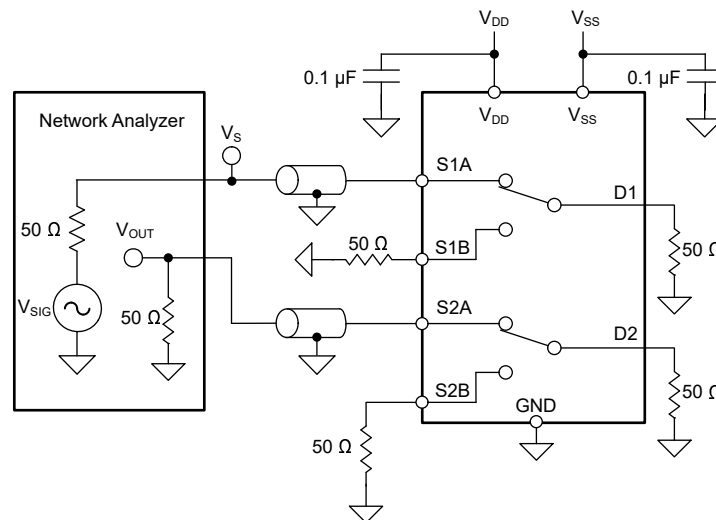

Figure 7-16. Inter-Channel Crosstalk Measurement Setup
2. Inter-channel crosstalk ($X_{TALK(INTER)}$): the voltage at the source pin (Sx) of an on-switch input, when a $1-V_{RMS}$ signal is applied at the source pin of an on-switch input in a different channel, as shown in Figure 7-16.